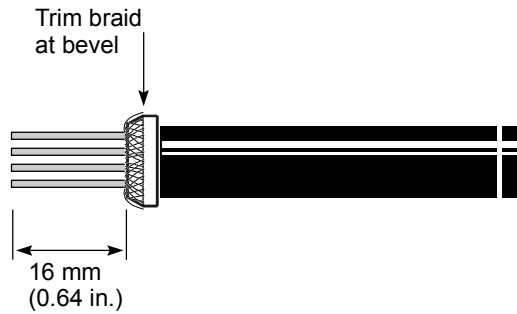

Figure 49 – Trimming the braided shielding
6. Trim the braided shielding at the point where the bevel in the cone becomes a cylinder; see Figure 49. Excess braid prevents the insertion of the cone into the connector body
7. Cut all the wires to a length of 16 mm (0.64 in.); see Figure 49.